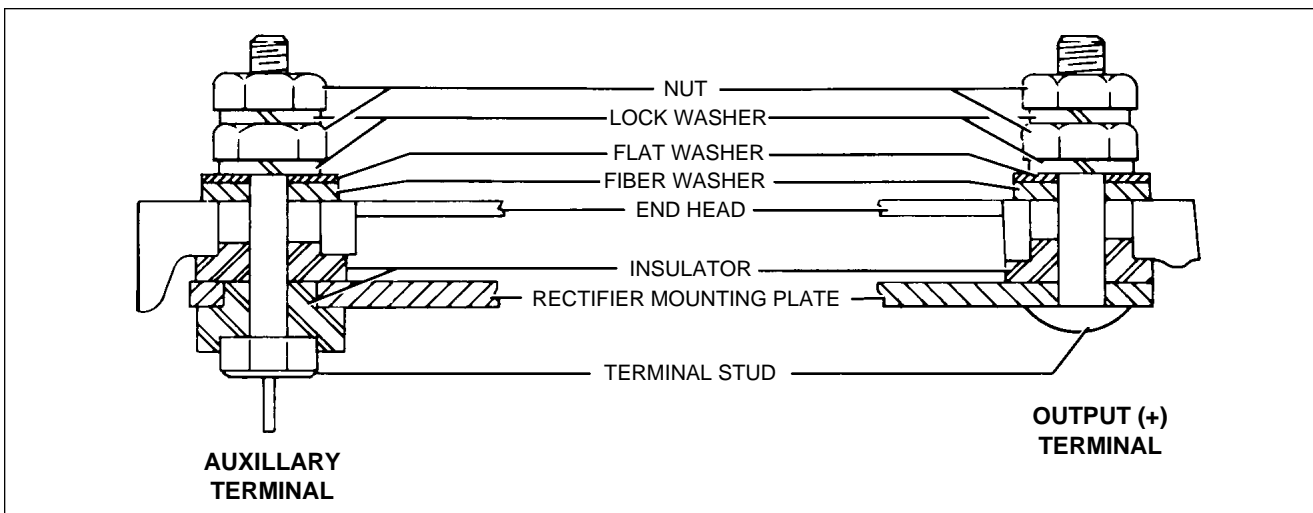

Figure 24-52. Terminal Assembly
- c. Assemble rectifier mounting plate studs and insulators. Verify they are in correct order. (Refer to Figure 24-52.)